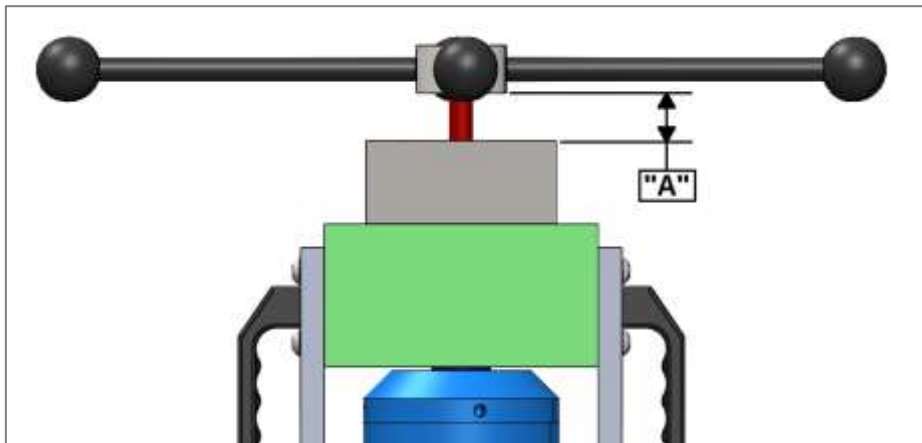

Figure 1: Force Actuator Positioning
Handle Diameter	16in, Ball Knob Manual Turn, 1" total linear travel dimension "A". Reference Figure 1, below.
- a. Position force actuator so that dimension "A" is approximately 0.50"-0.75". Reference Figure 1.
- a. Position force actuator so that dimension "A" is approximately 0.25"-0.50". Reference Figure 1.